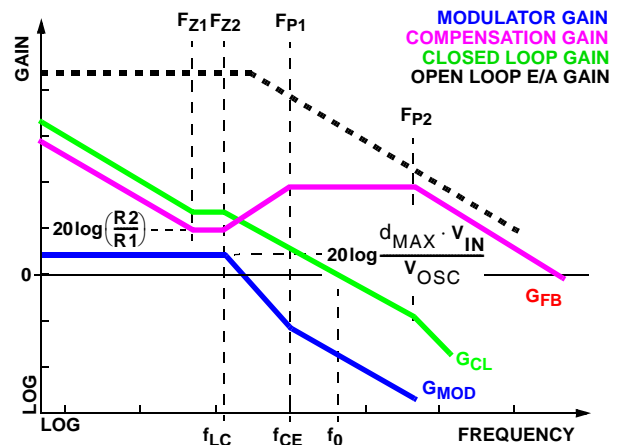

FIGURE 10. ASYMPTOTIC BODE PLOT OF CONVERTER GAIN
Figure 10 shows an asymptotic plot of the DC/DC converter's gain vs. frequency. The actual modulator gain has a high gain peak dependent on the quality factor (Q) of the output filter, which is not shown. Using the above guidelines should yield a compensation gain similar to the curve plotted. The open loop error amplifier gain bounds the compensation gain. Check the compensation gain at  $F_{P2}$  against the capabilities of the error amplifier. The closed loop gain,  $G_{CL}$ , is constructed on the log-log graph of Figure 10 by adding the modulator gain,  $G_{MOD}$  (in dB), to the feedback compensation gain,  $G_{FB}$  (in dB). This is equivalent to multiplying the modulator transfer function and the compensation transfer function and then plotting the resulting gain.